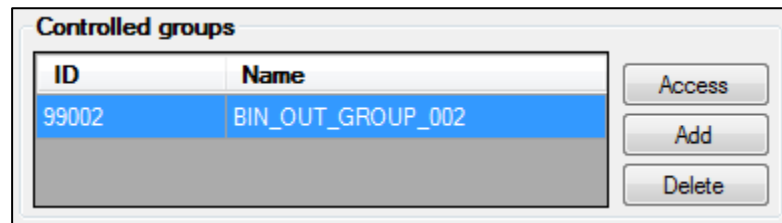

Figure 40: List of groups controlled by the selected schedule.
Click on this button to remove a group selected from the list shown on *Figure 40*. A message will ask you to confirm or cancel the deletion request.
- **“Time”:** time (*hours: minutes*) at which the “State” will be applied to the list of groups controlled by the schedule (refer to *Figure 40*) for the day(s) indicated in the “Day” column.